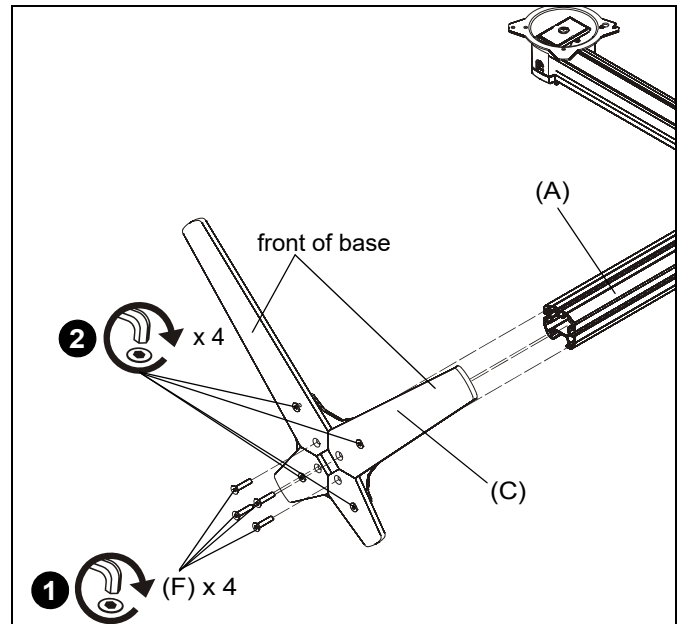

Figure 3
1. Slide array arm-right (W) between brackets at top of column assembly (A). (See Figure 3)
1. Use four 1/4-20 x 1 1/4" flat head cap screws (F) to secure table top base (C) to column assembly (A). (See Figure 3)
NOTE: Make sure front of base (long legs) is on the display side when attaching base to column. (See Figure 3)
2. Tighten four existing bolts holding stand to column. (See Figure 3)